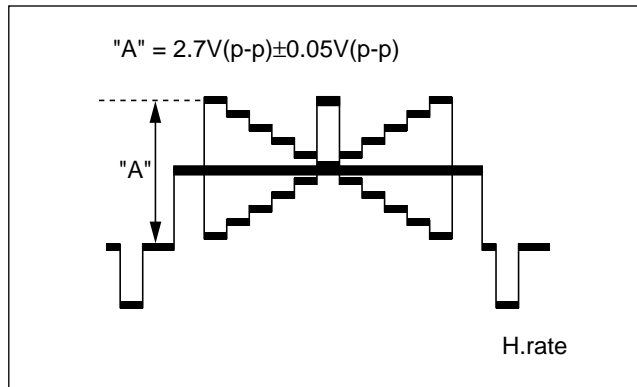

Fig. 3-4-3 Gamma
- 2) Adjust VR7103 so that level of "A" (see Fig. 3-4-3) of a waveform becomes $2.7 V(p-p) \pm 0.05 V(p-p)$.